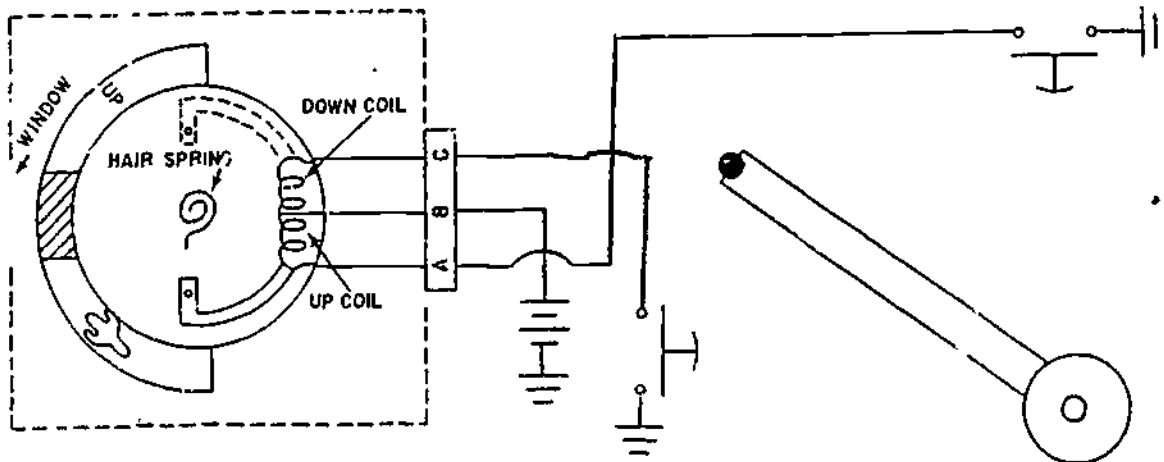

Figure 9.
7. Using figure 9, which coil will energize with the landing gear in the down position?
8. Using figure 9, if the down microswitch remained closed when the landing gear retracted, the indication would be